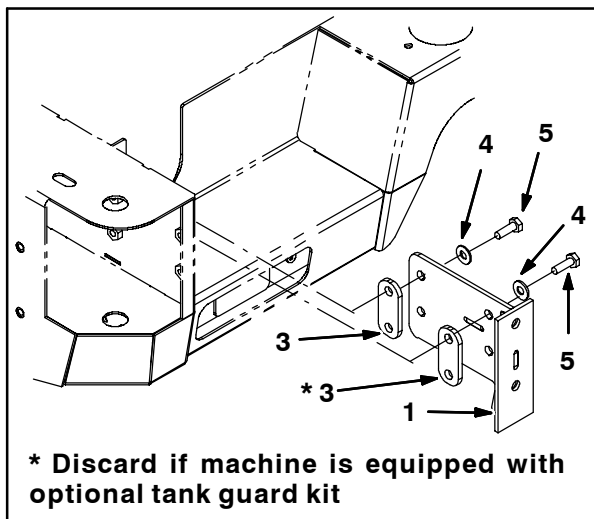

FIG. 4
- Repeat the previous step to mount the left rear support (1) to the left side of the machine. Refer to Fig. 4.